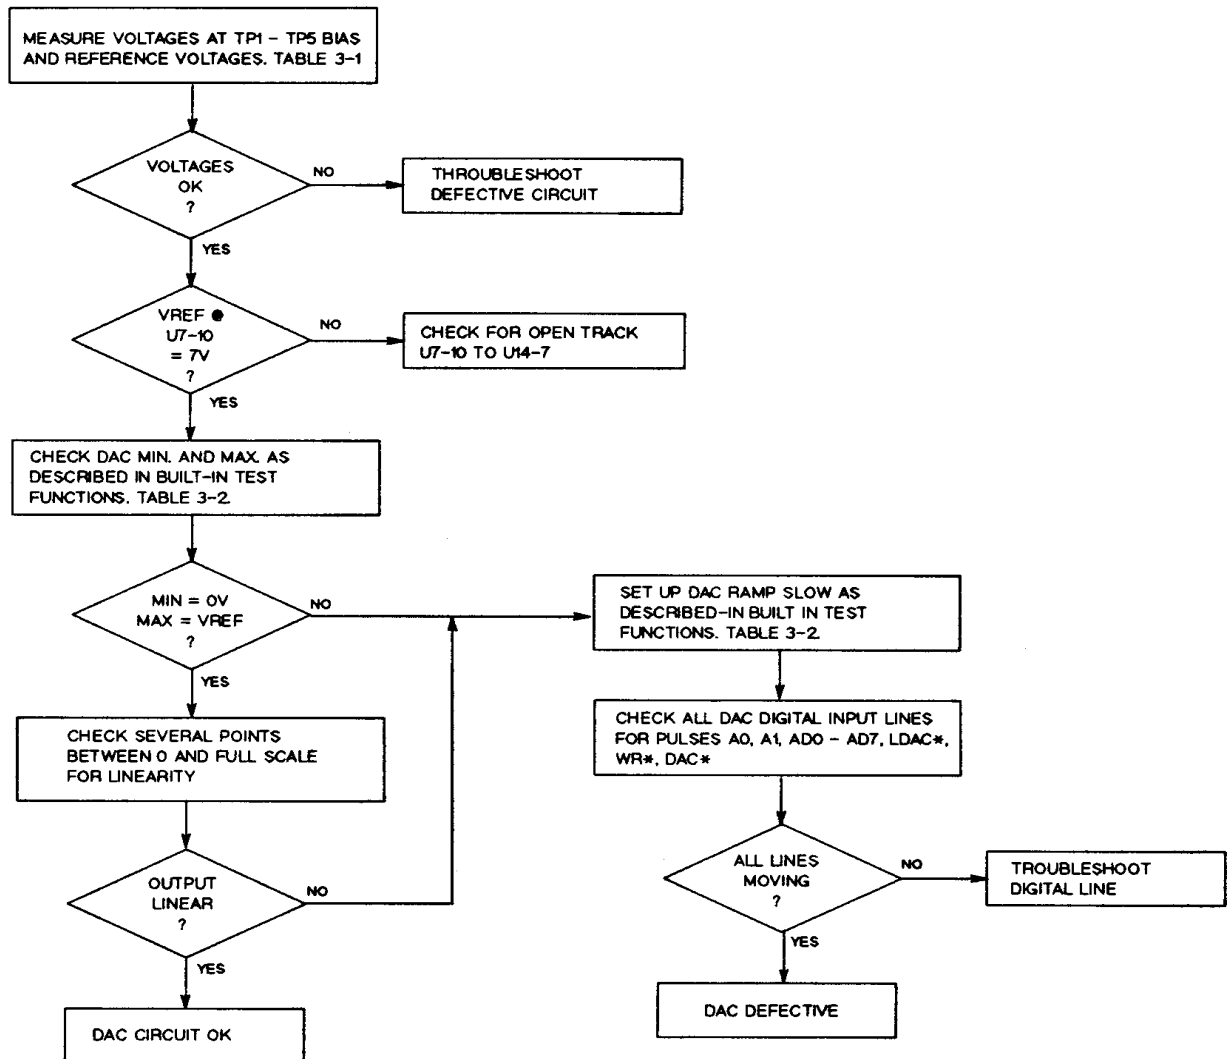

Figure 3-11. Troubleshooting DAC Circuit
- Figure 3-11 - Troubleshooting DAC Circuit